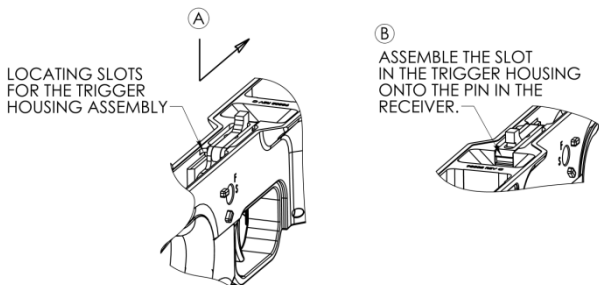

Figure 36.
1. Insert the trigger housing assembly into the slot in the lower receiver. (*Figure 36, Step A.*) Slide the trigger housing assembly forward and align the front of the trigger housing onto the pin in the receiver. (*Figure 36, Step B.*) Next align the safety hole in the lower receiver and the hole in the trigger housing.